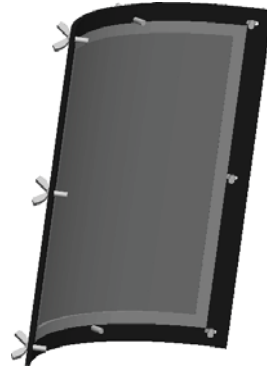

Figure 76
6. Inspect the ceramic gasket (white) and the silicone gasket (gray) attached on the inside of the Inner door for any damage (**see figure 76**). If any damages, you must order one or both gaskets.